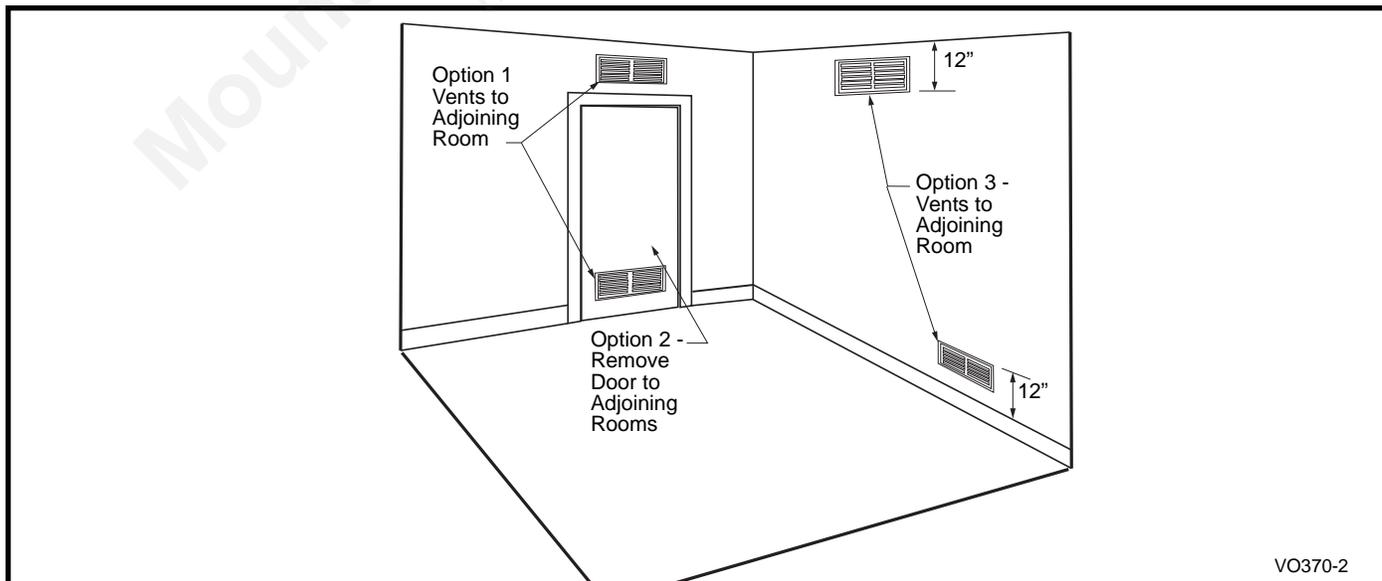

Fig. 8 Vent options to provide additional air.
**A)** Open up or provide at least two ventilating grilles to an adjoining unconfined space. Use any of the options illustrated in Figure 8.